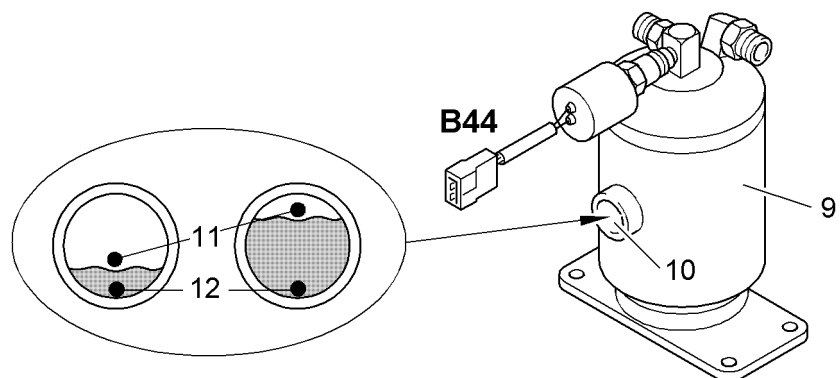

Fig. 5-79 Dryer-accumulator unit
- ▶ Check the function of the pressure switch **B44** on the dryer-accumulator unit **9** (see Fig. 5-79).